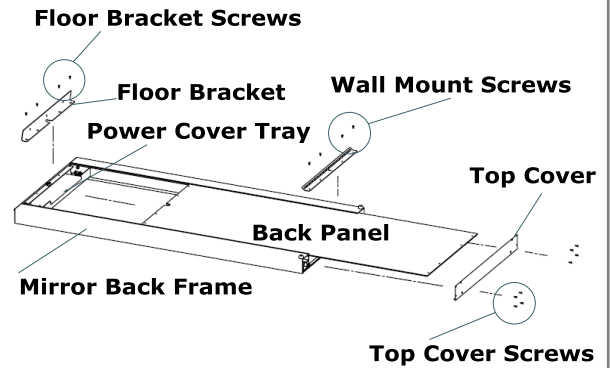

Figure 8
5. To replace the power supply, proceed by removing the top cover screws, top cover, floor bracket screws, floor bracket, wall mount screws and wall mount from mirror back frame and slide back panel out towards the top opening exposing the power tray cover. **See Figure 8.**